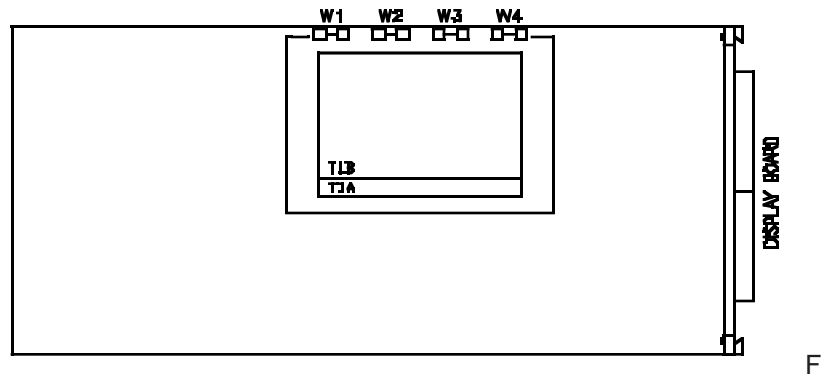

Figure 3-1. Main Board Jumpers (W1, W2, W3, W4)
3.2 MAIN BOARD POWER JUMPERS (refer to Figures 3-1 & 3-2)
2. Locate the solder jumpers W1, W2, and W3 (located near the edge of the main board alongside the transformer - refer to Figure 3-1).
Figure 3-1 shows the location of solder jumpers W1 through W4.